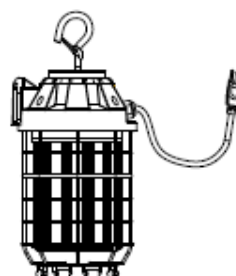

Figure 1
**STEP 2:** Screw the hook onto the top of the fixture. (Figure 1)